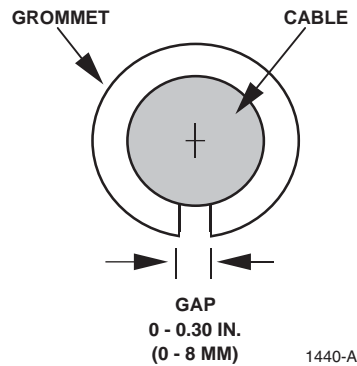

Figure 10. Grommet Selection
3. Four rubber yokes and two grommets are provided with the cable clamp kit for securing the cable to the panel. Select the grommet that, when fitted on the cable, as shown in Figure 10, provides the gap width shown.